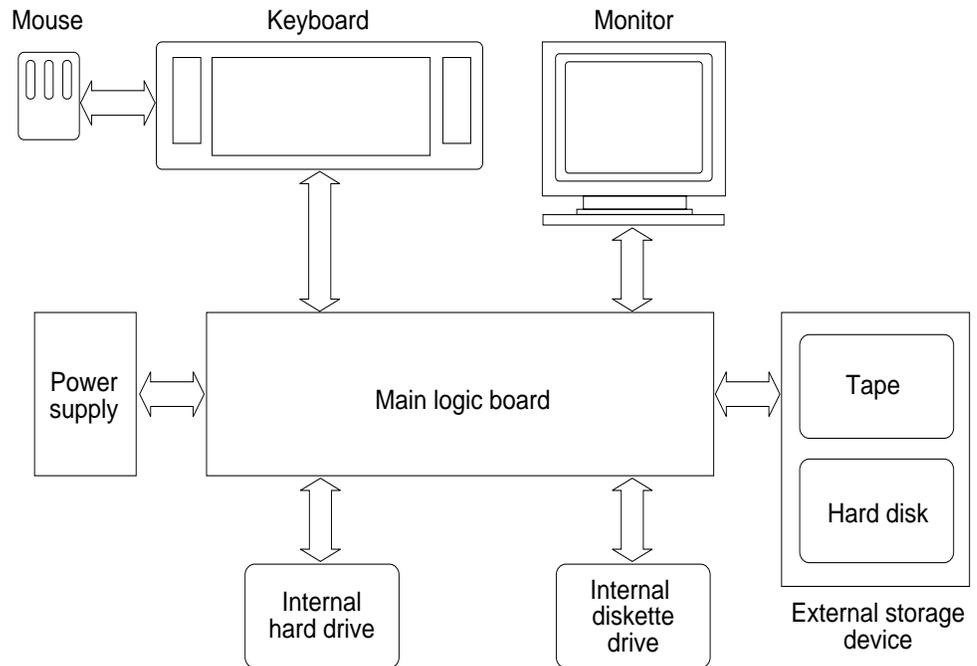
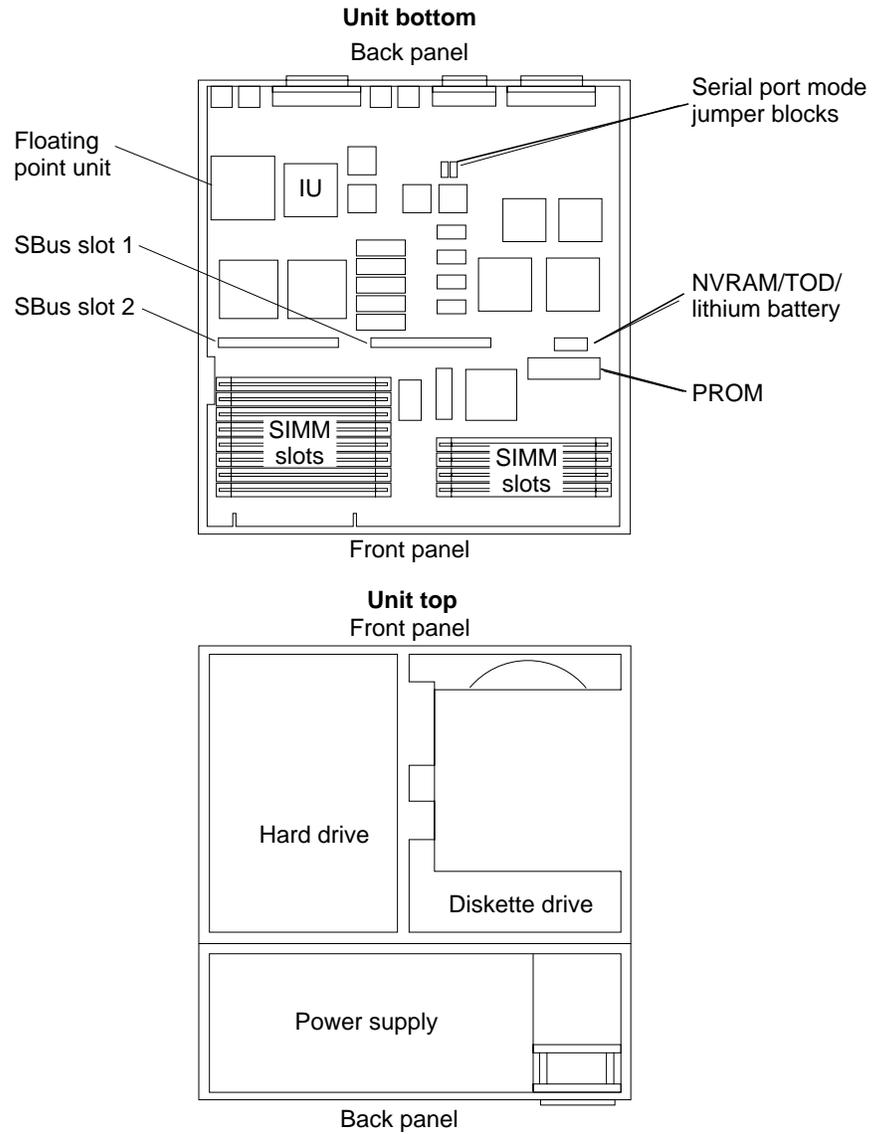
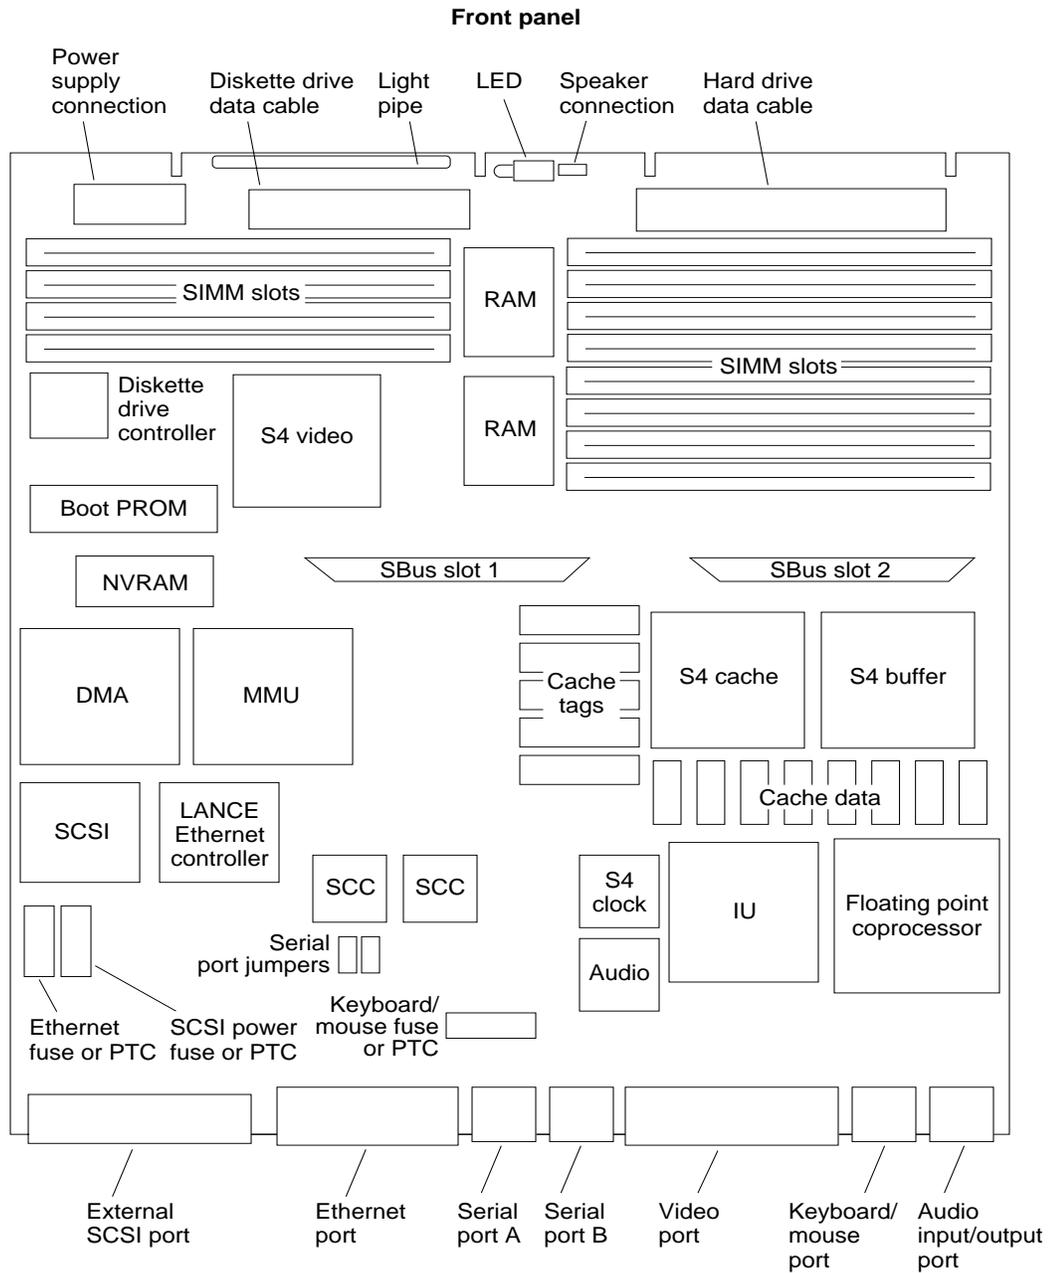
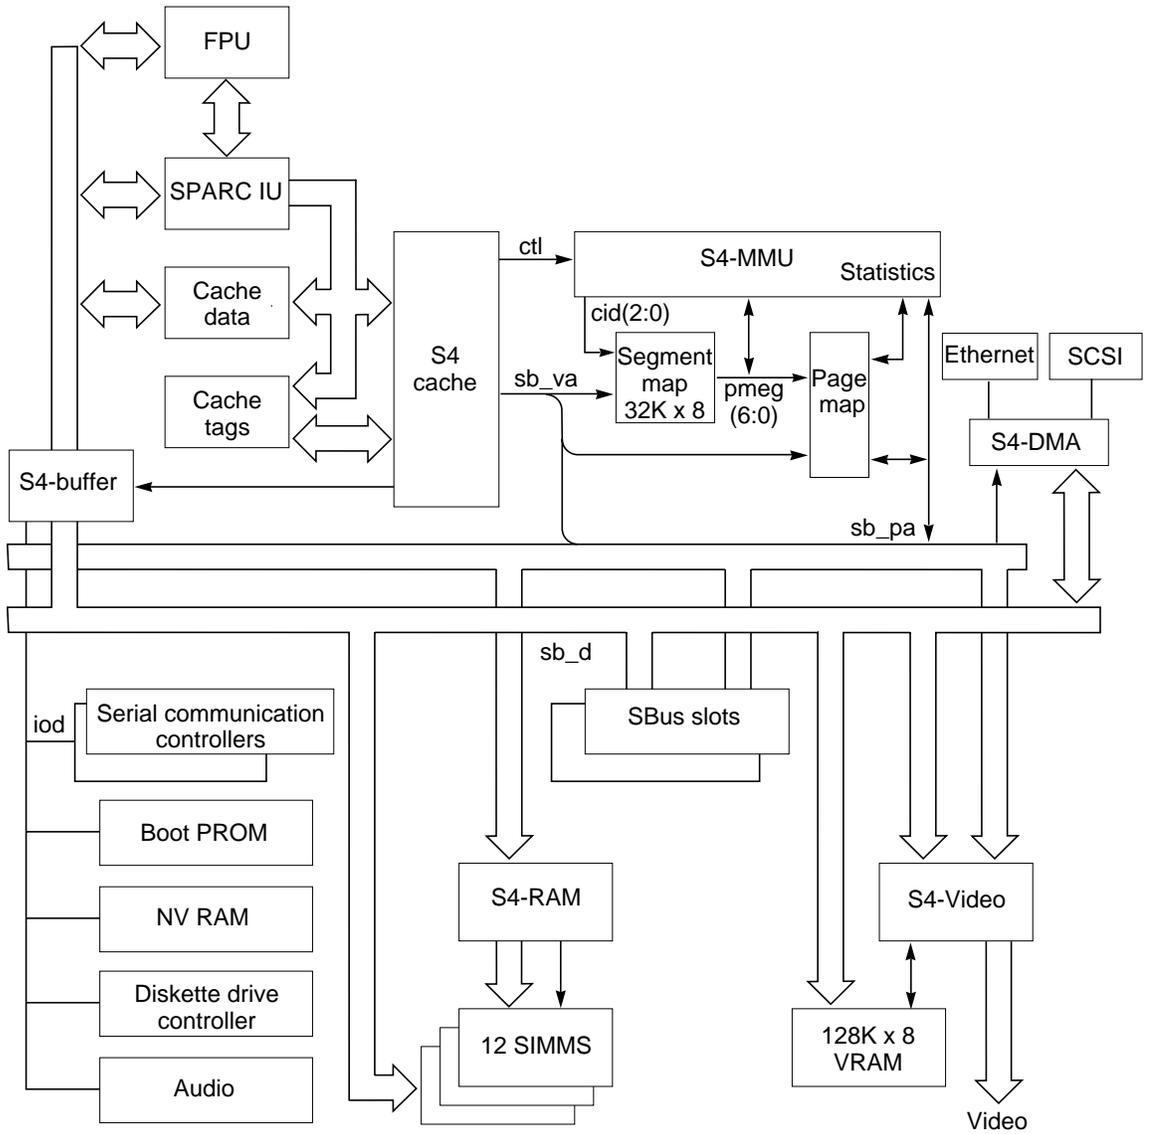

Figure 1-1 SPARCstation IPC With External Storage Device Block Diagram
Figure 1-2 Open View of the System
Figure 1-3 The Workstation's Main Logic Board
Figure 1-4 A Block Level Diagram of the Main Logic Board
Figure 1-1 illustrates the system's configuration with an external storage device. Figure 1-2 presents an open view of the system. Figures 1-3 and 1-4 present the main logic board's layout and a block-level diagram of the main logic board. The balance of the chapter describes the system's components.
Figure 1-1 is a block diagram of one of the workstation's configurations.
Figure 1-3, on the next page, illustrates the main logic board's layout. All chips discussed in "Main Logic Board," which follows, are illustrated in this figure.
The basic core of the main logic board is the SPARC Instruction Unit (IU) (see Figures 1-2, 1-3, and 1-4). The IU's clock speed is 25 MHz. Integer operation is approximately 15 Dhrystone MIPs. The IU is supported with the S4 chip set, including the S4 cache, the S4 memory management unit, the S4 buffer, and the S4 clock.
The floating-point coprocessor (see Figures 1-2, 1-3, and 1-4) delivers approximately 1.75 Mflops double precision Linpack performance.
Cache memory (see Figures 1-3 and 1-4) is high-speed local memory for the IU. The chips comprising cache memory include the following:
The boot PROM (see Figures 1-3 and 1-4) is connected to the I/O data bus. The boot PROM is 128Kx8 for systems with Open Boot PROM Version 1.x or 256Kx8 for systems with Open Boot PROM Version 2.x and contains the boot code and the Forth Toolkit, signified by the `ok` prompt. The Forth Toolkit does not look like other Sun Monitor programs and does not behave like the older Sun PROMs.
The NVRAM chip (see Figures 1-3 and 1-4) contains the time-of-day clock and the non-volatile RAM. The NVRAM chip is connected to the I/O data bus.
Serial ports A and B reside on the main logic board (see Figure 1-3). These serial ports are RS-423 ports, configurable to RS-232, and can connect peripheral equipment such as terminals, printers, and modems by an adapter cable with an 8-pin DIN connector. The serial communications controller chips (Figure 1-4) help to implement the serial ports A and B interface.
A keyboard and mouse port supplied with an 8-pin DIN connector, on the back of the main logic board to the right of the Video port (see Figure 1-3), controls the keyboard and mouse. The serial communications controller chips (Figure 1-4) help to implement the keyboard and mouse interface.
The internal diskette drive is connected to the I/O data bus by the diskette drive controller chip (see Figures 1-3 and 1-4).
The system speaker is connected to the I/O data bus by the audio chip (see Figures 1-3 and 1-4). There is an audio port on the unit back panel. With a split adapter cable (ISDN connector) for microphone and headphone, you can plug the following devices into the audio input/output port:
The S4 memory management unit (MMU) chip, (see Figures 1-3 and 1-4) is connected to the system bus. The MMU maps the virtual addresses used by user programs, SunOS, and input/output devices to physical memory addresses. This is how virtual memory is implemented. Virtual memory allows a user program to have access to an address space that is larger than the physical memory present on the system.
Ethernet is controlled by a Local Area Network Controller for Ethernet (LANCE) controller chip (see Figures 1-3 and 1-4). SCSI disk drive operations are handled through the SCSI controller chip. Both the Ethernet controller and the SCSI controller interface to the SBus through the S4 DMA chip.
- Two S4 RAM chips, illustrated in Figures 1-3 and 1-4
There are two SBus slots on the main logic board (see Figures 1-2 and 1-3). These SBus slots accommodate SBus cards such as a color frame buffer card or a second Ethernet card. The SBus slots are connected to the SBus data bus and the SBus address bus. The SBus is a proprietary 32-bit synchronous bus. See “SBus Cards” later in this chapter for more information on specific SBus boards. “SBus Cards” in Chapter 4 explains how to remove and replace SBus cards.
Ethernet is controlled by a Local Area Network Controller for Ethernet (LANCE) controller chip (see Figures 1-3 and 1-4).
The SCSI hard disk drives and 150 megabyte and 8 mm tape drives are controlled by the SCSI controller chip (see Figures 1-3 and 1-4).
The diskette drive is controlled by the diskette drive controller chip (see Figures 1-3 and 1-4).
The system is shipped with eight 1-megabyte Single Inline Memory Modules (SIMMs). Four megabytes of memory, contained in 1-megabyte SIMMs, can be added (see Figures 1-2, 1-3, 1-4). 4-megabyte SIMMs are also available and can be added in increments of 16 megabytes. If the eight standard 1-megabyte SIMMs are replaced with eight 4-megabyte SIMMs and the remaining four SIMM slots supplied with 4-megabyte SIMMs, the capacity can be increased to 48 megabytes maximum.
Various SBus cards can be added to the system’s two SBus slots on the main logic board. Figures 1-2 and 1-3 illustrate the SBus slots. See “SBus Cards” in Chapter 4 for information on how to remove and replace SBus cards. Examples of the types of SBus cards include the following:
One 3 1/2-inch embedded SCSI 207 megabyte hard disk drive or one 3 1/2-inch embedded SCSI 104 megabyte hard disk drive (see Figure 1-2) can be installed in the system unit. Chapter 4 describes how to install the hard disk drive in the system unit.